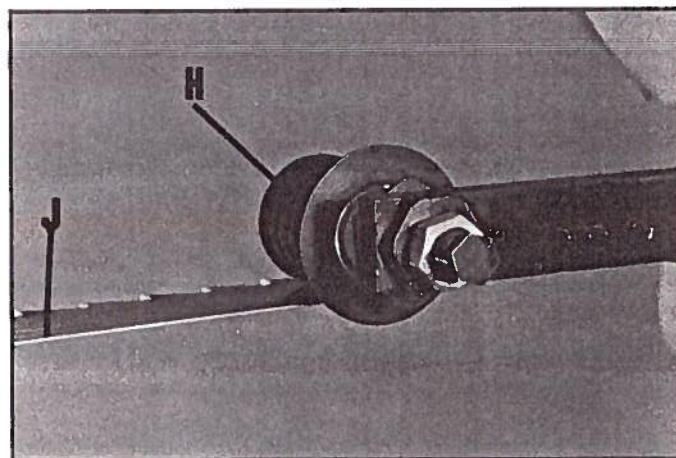

Fig. 31
8. The blade guide rollers (H) Fig. 31, are designed to apply 1/8" downward pressure on the blade (J).